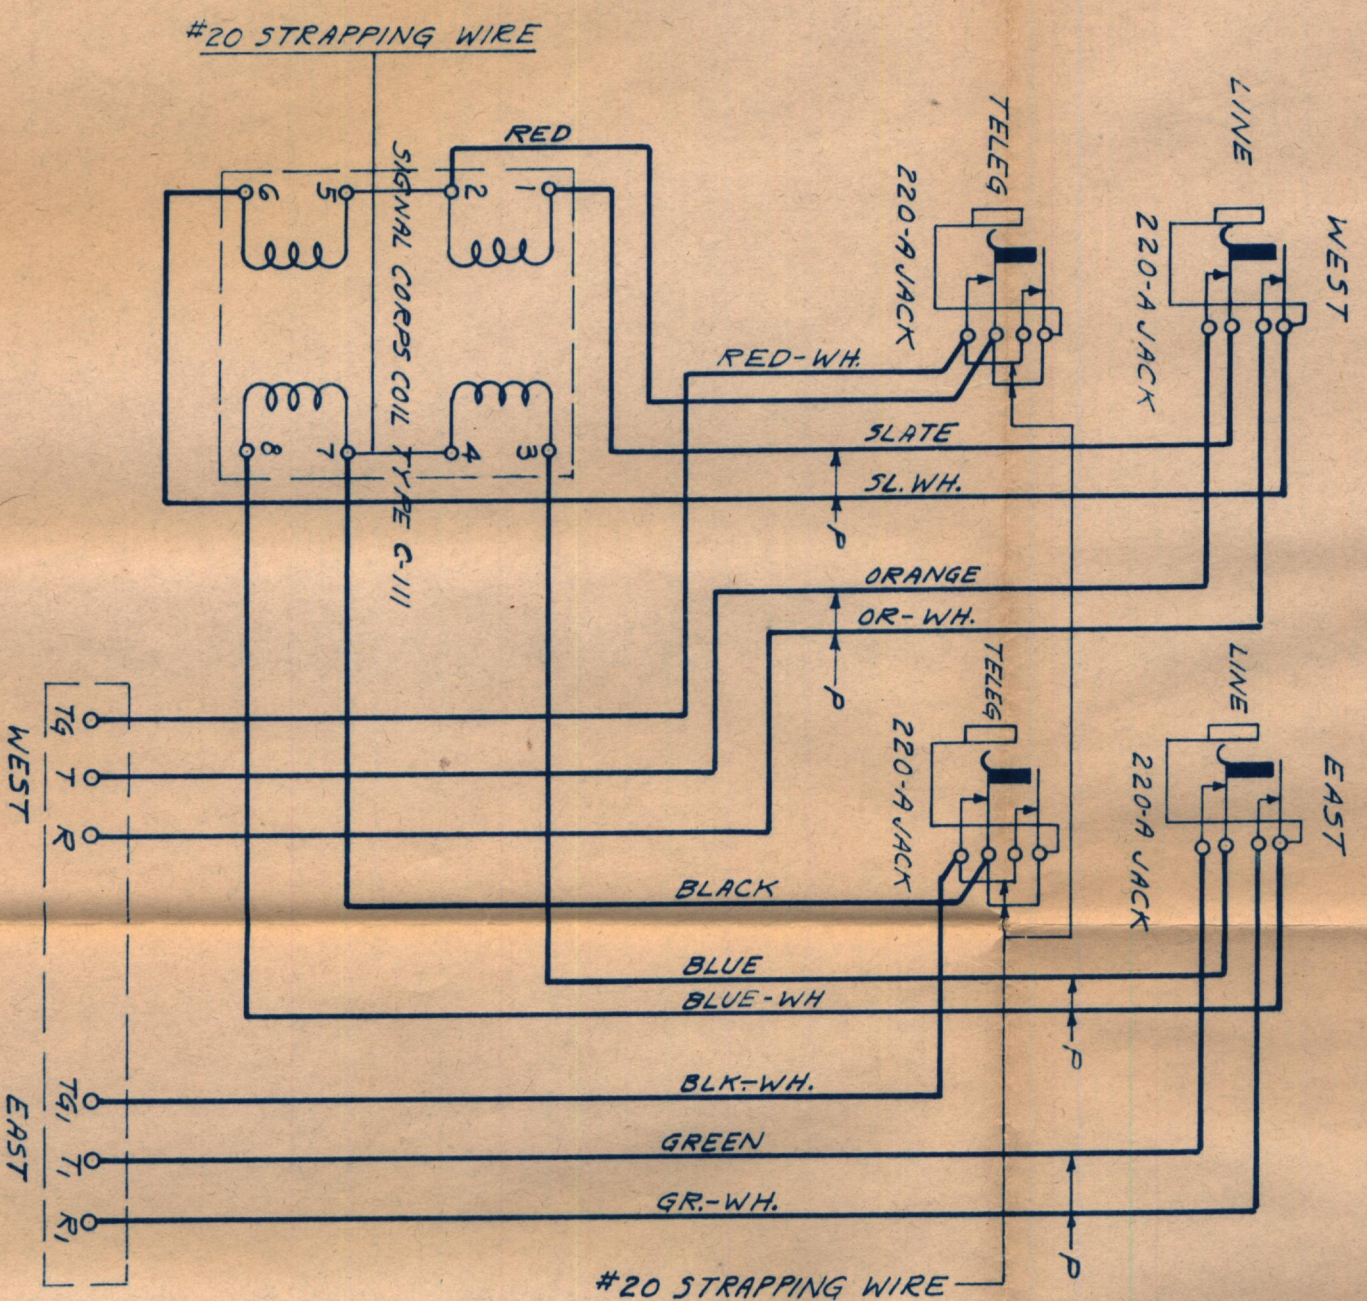

FIG. 5 (SEE NOTE 5)
5. CONNECT SIMPLEX CKT. PER FIG. 5 TO REDUCE NOISE IN TELEPHONE CXT. DUE TO TELEGRAPH CURRENT.